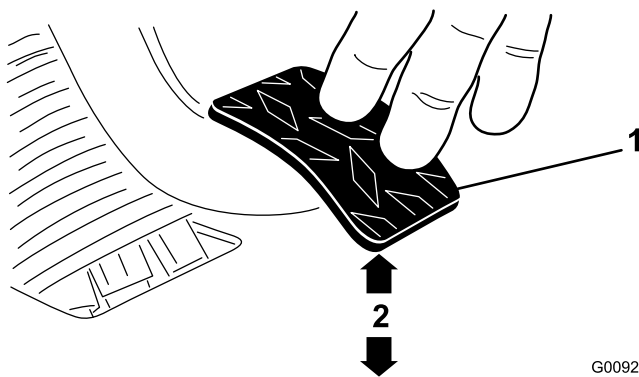

Figure 74
3. Adjust the jam nuts or ball joint until the back, rear edge of the clutch pedal is 3.75 ± 0.12 inch (9.5 ± 0.3 cm) from the top of the floor plate diamond pattern, when an 4 lb (1.8 kg) force is applied to the pedal (Figure 74).